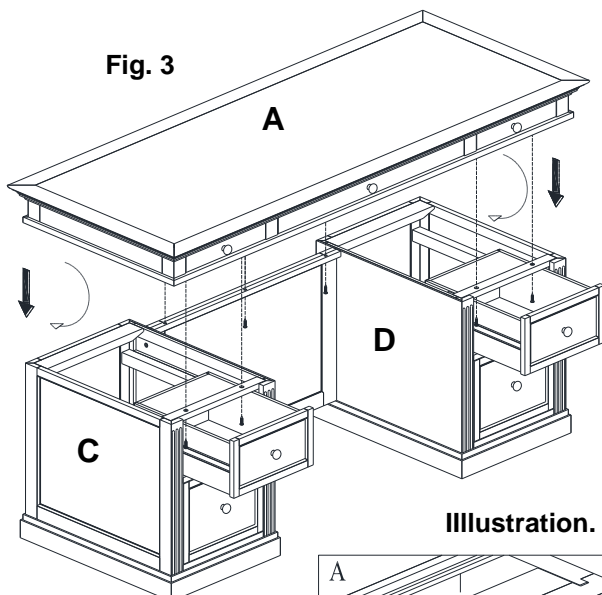

**Fig. 2**
2. Extend the drawers of the pedestal, insert the Allen Bolts (E) through the holes on the side panel of the pedestal into the inserts on the Back Panel (B), then tighten with the Allen Key (F) as shown in **fig. 2 illustrations. 2**.